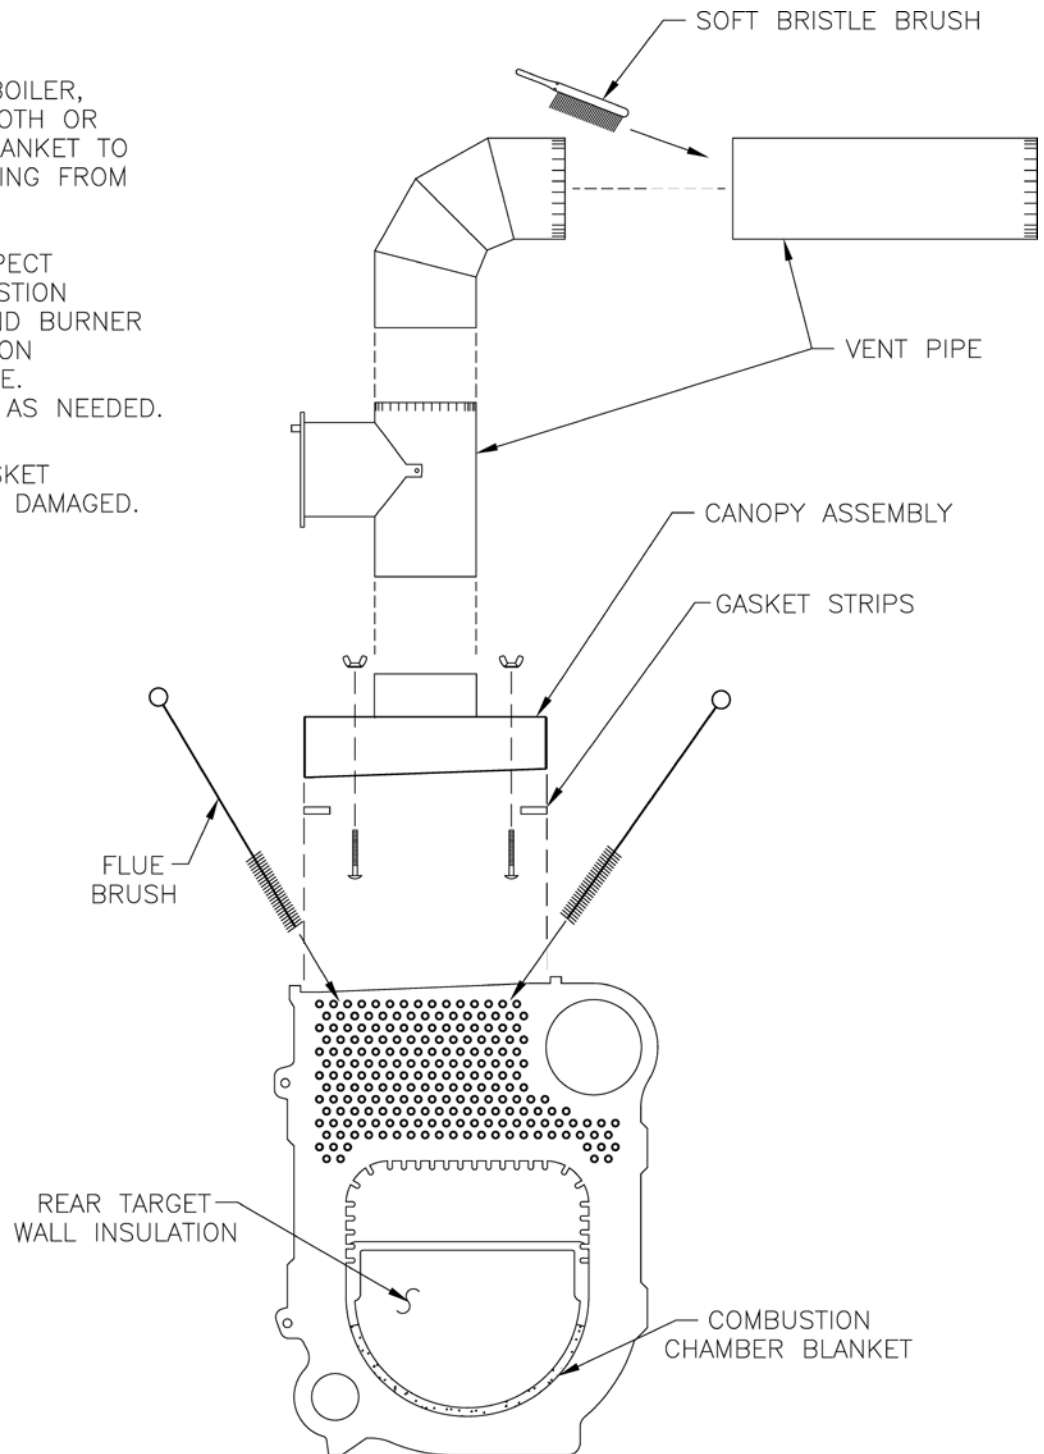

Figure 31: Cleaning of Boiler Flueways
- A. CLEAN THE FLUEWAYS** (See Figure 31).